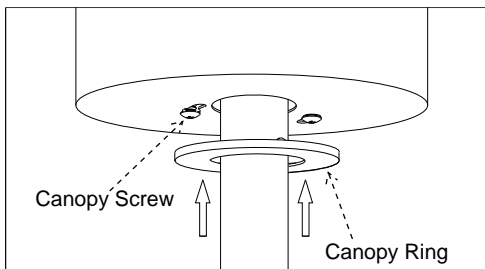

Fig. 12
Step 4. As shown in Fig. 12, push the canopy ring (D) upwards until it covers the canopy screw.